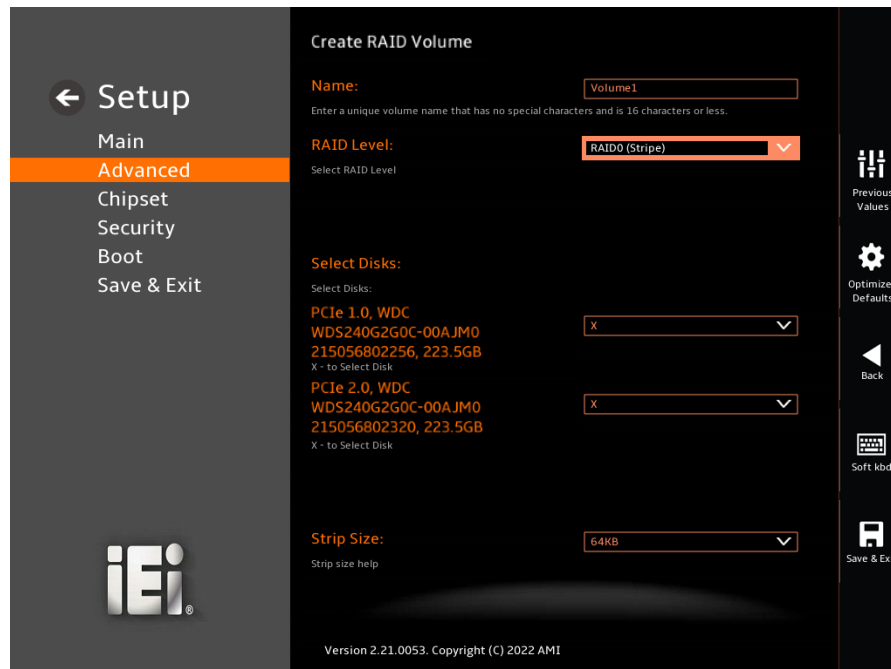

Figure 3-28: Choose the RAID Level and select the Disks
Step 7: Press the up/down arrows on the keyboard to choose the **RAID Level** and select the disks for the RAID configuration. (See Figure 3-28)